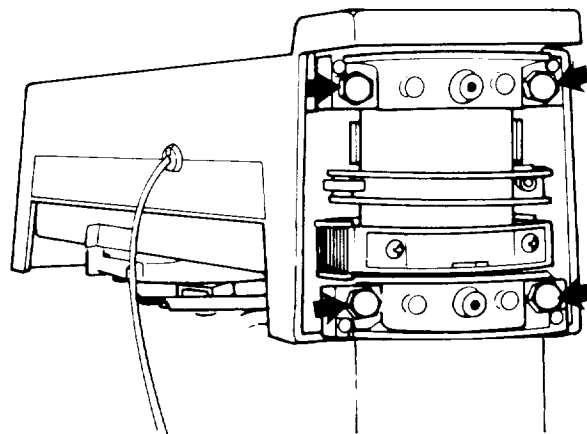

Fig. 157 - Location of Hex Head Tapping Screws
2. With a 9/16 inch wrench or socket, tighten evenly the top two 3/8-16 hex head tapping screws. The bottom two screws should also be tightened evenly but not as tight as the top screws. (Figure 157)